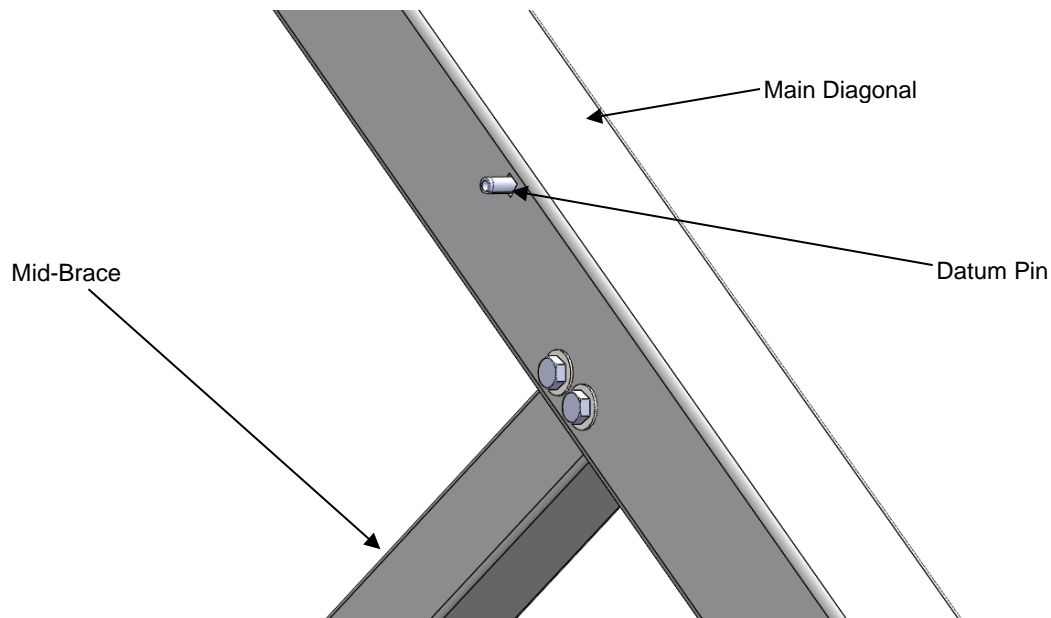

Figure 9: Datum Pin Location
- a. Install the datum pin half of the length of the pin in the square hole on the outer side of the Main Diagonal (Figure 9).